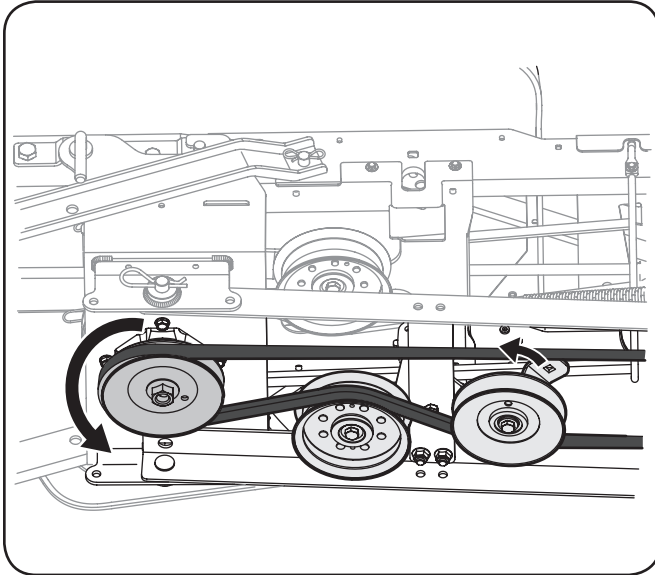

Figure 3-26
- Route the auger assembly's belt around the carriage spindle pulley as shown in Figure 3-26.